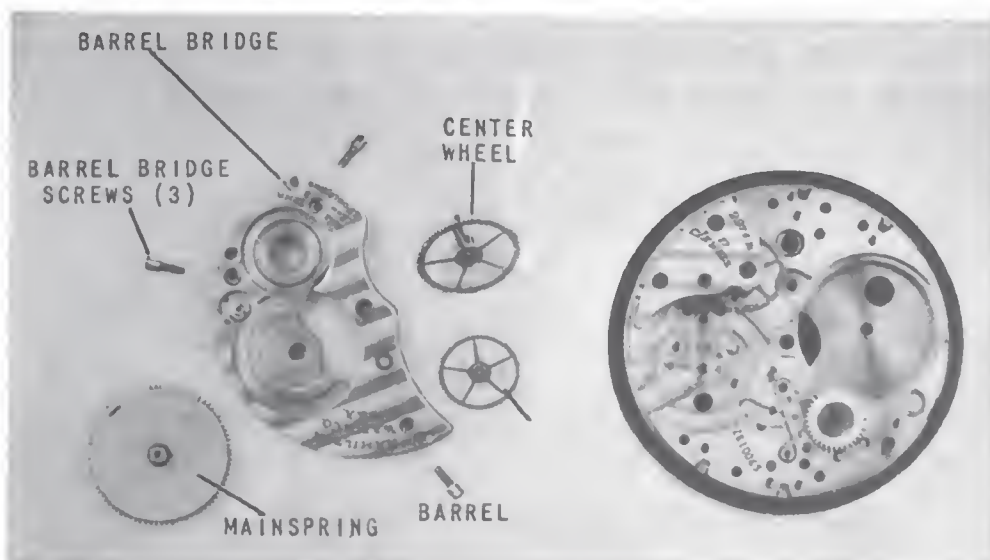

Figure 59.— Barrel bridge with barrel, center wheel and third wheel removed.
*Remove the barrel bridge and wheels.* — Remove the three barrel bridge screws, and lift the barrel bridge free. Then remove the center wheel and the third wheel. (See figure 59.) Then take out the mainspring barrel assembly.